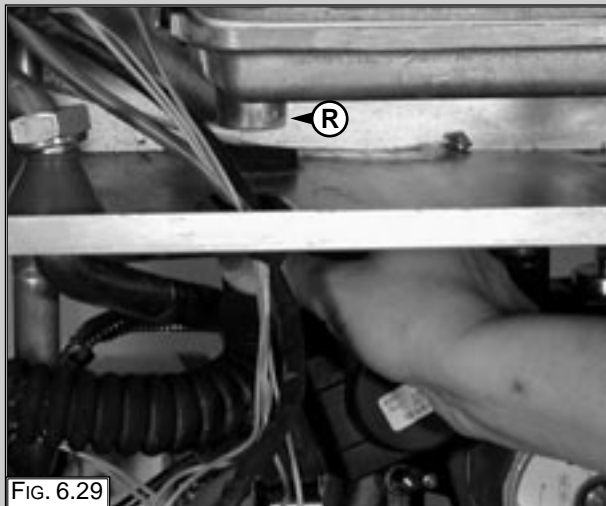

FIG. 6.29
1. Open the clamp and remove the condensate trap connection pipe "R" (FIG. 6.29);
1. Open the clamp and remove the condensate trap connection pipe (FIG. 6.29+6.32);